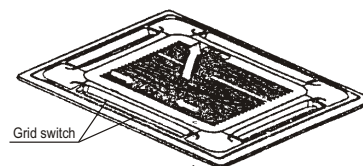

Fig. 21
- a. Slide two grid switches toward the middle at the same time, and then pull them up. (Refer to Fig.21)